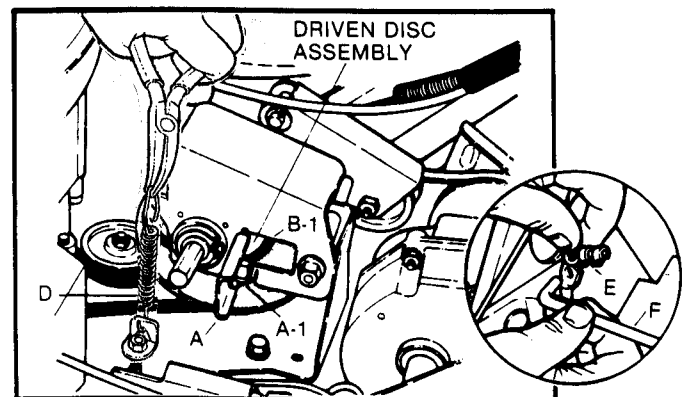

FIG. 14 -DRIVEN DISC ASSEMBLY
- Grease on drive disc (C)-causing slippage.
- Broken or disconnected DRIVE SPRING (D) (also refer to FIG. 14).
- Driven disc rubber ring (B-1) worn - not contacting drive disc (C) properly.
- Driven disc (B) out of adjustment
DRIVEN DISC REPLACEMENT: If the driven disc rubber ring (B-1) is found to be badly chunked or worn down to within 1/16" of the metal rim of the driven disc hub (B), it must be replaced. Remove the clip (E) at end of speed control rod, and then turn the transfer rod (F) to a upright (vertical) position and detach from the connector (A) (FIG. 14 & 15). Unhook drive spring (D) (use needle nose pliers) and slide the driven disc assembly off hex-shaft.